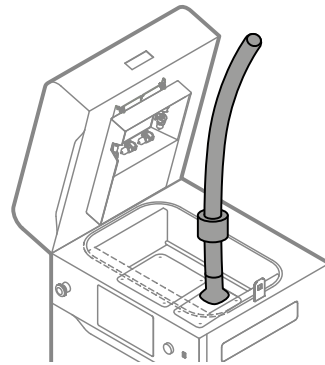

Fig. 13.33 Vacuum powder from the Print Bed.
18. Vacuum powder from the Print Bed and the gap around. Use appropriate nozzles (fig. 13.33).